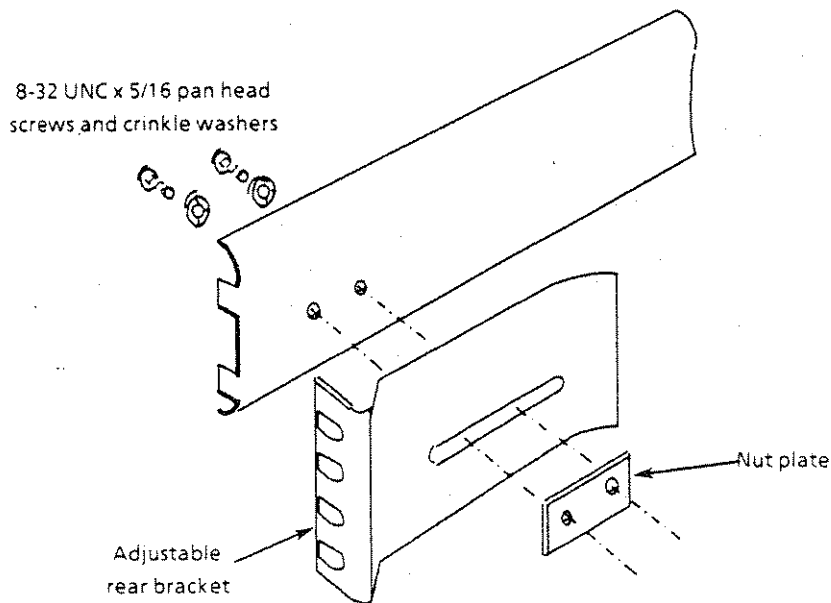

Fig. 2.4 Fitting a rear bracket
4.3.3 Fit the following items to the telescopic slide outer members, as shown in Figs. 2.4 and 2.5: